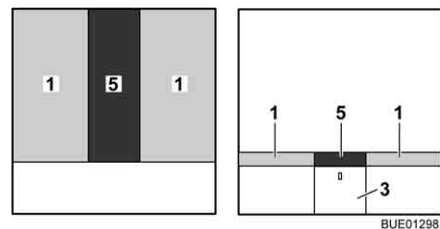

Fig. 115 After conversion
- Place the additional cushion (Fig. 115,5) between the mattresses (Fig. 115,1).